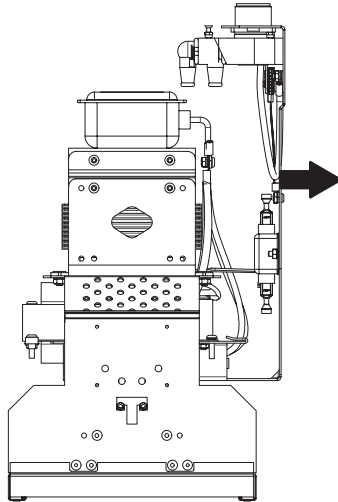

Figure 6-18 Removing the Transformer Bracket (External Blower Version Shown)
4. See Figure 6-18. Pull the transformer bracket from the waveguide assembly far enough out to access the wiring connections.